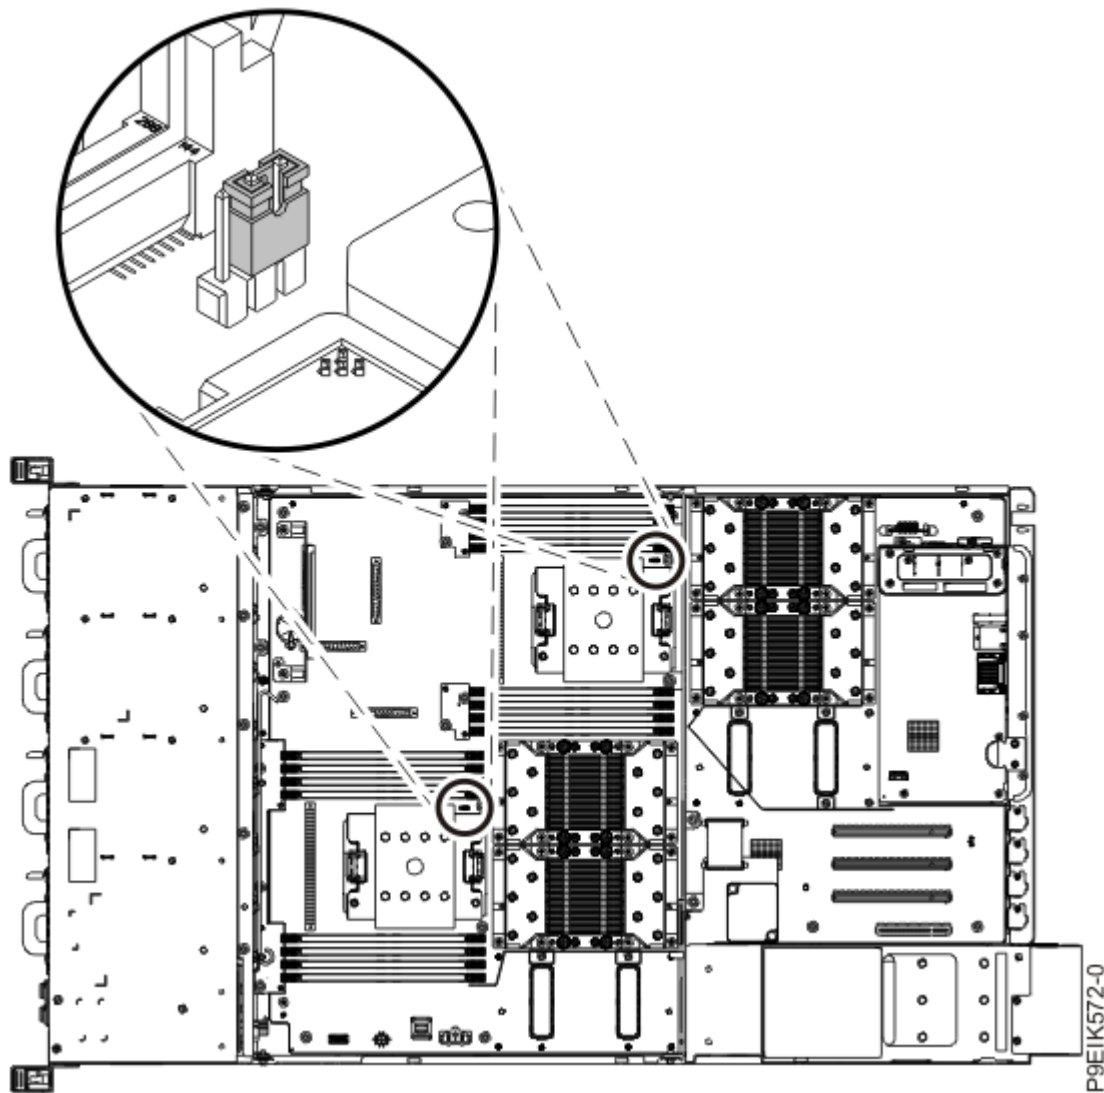

Figure 112. System processor jumper positions
5. Install the system processor jumpers on the system backplane as shown in Figure 112 on page 141.